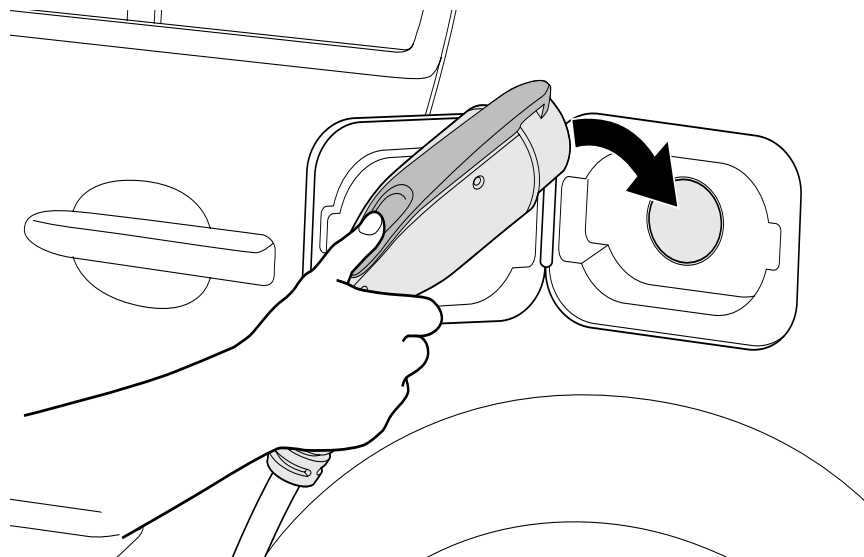

Figure 6-2. Connecting the charging plug to the EV
2. See Figure 6-2. Release the charging plug from the plug dock and connect it to the EV to start the charging process.